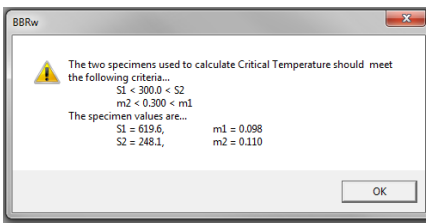

Figure 18: Delta Tc Error Message
4. If test results do not meet the specified parameters for calculating the Delta Tc, an error message will appear as shown in Figure 18.